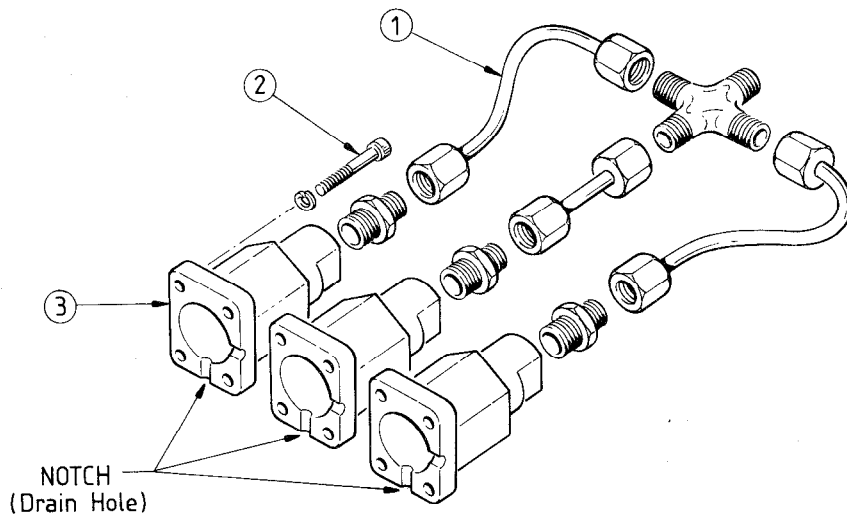

FIG 2 - OVERLOAD PROTECTION ASSEMBLY
- b. Remove pipe from the overload protection assembly, (Item 1, Fig 2).
- c. Remove set screws, (Item 2, Fig 2).
- d. Blocking cylinder (Item 3, Fig 2) will now be able to be removed.
- i. Replace the overload assembly, ensuring that the notch (drain hole) is facing down. Refer to Fig 2.